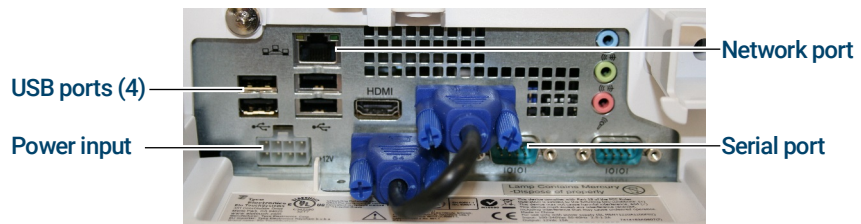

Figure 3. Controller ports (underside)
- 1 Connect power cords: One power cord is used to connect the instrument to a grounded AC (mains) outlet. A second power cord is used to connect the controller power supply module to the AC supply. The power supply module is then connected to the socket at the bottom of the controller. (See **Figure 3**.)
- 3 A second cable (USB) connects the analyzer socket labeled "USB" to the USB port on the controller directly adjacent to the network (Ethernet) port. This port must be used for proper functioning of the instrument and barcode reader. (See **Figure 3**.)